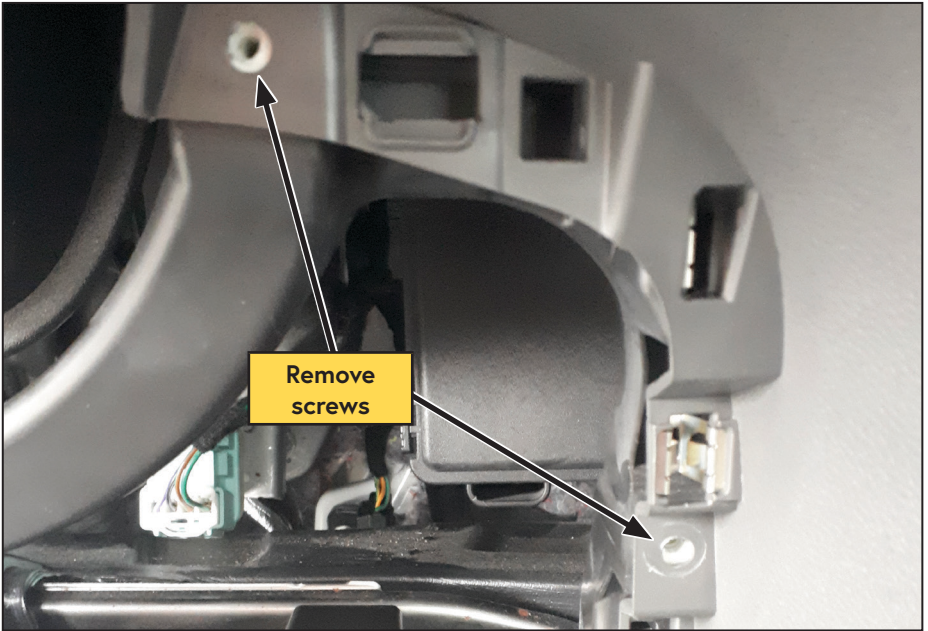

Figure 47 — Remove shifter console
- From the passenger side of the lower dashboard, remove the (x2) screws securing the shifter console (Figure 47).